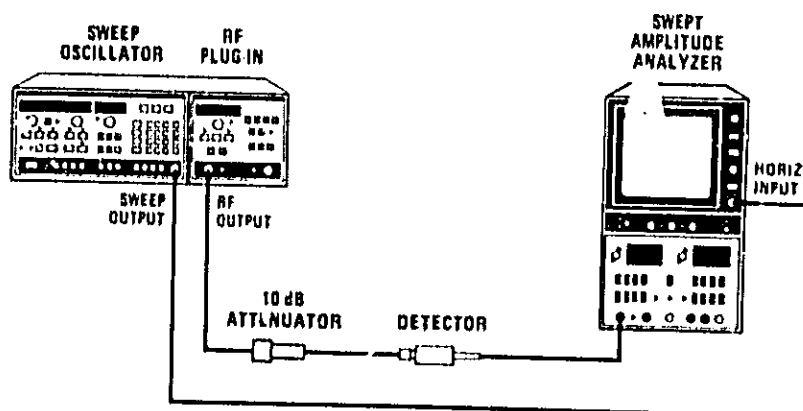

Figure 5-19. Internal Leveling Adjustment Setup
1. Reinstall the A5 FM Driver Assembly. Connect equipment as shown in Figure 5-19, with the 8755C monitoring the RF output. Select 8350A MOD . Sweep the full range of the plug-in.